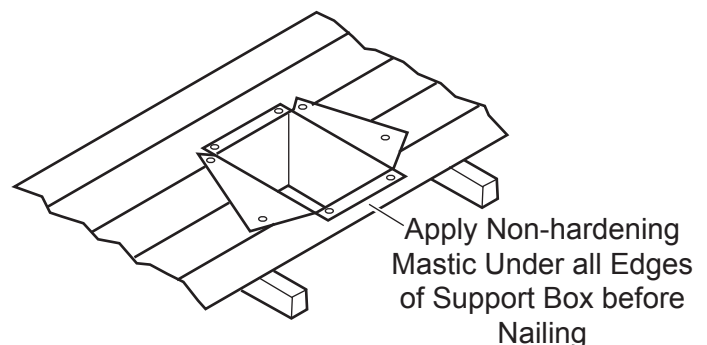

Figure 22 - Installed Cathedral Ceiling Support Box
4. Using tin snips, cut the support box from the top corners down to the roofline and fold the resulting flaps over the roof sheathing. See Figure 22. Apply a bead of non-hardening mastic around the top edges of the support box to make a seal between the box and the roof. Nail in place with roofing nails. Remove any combustible material that might be inside the support box.